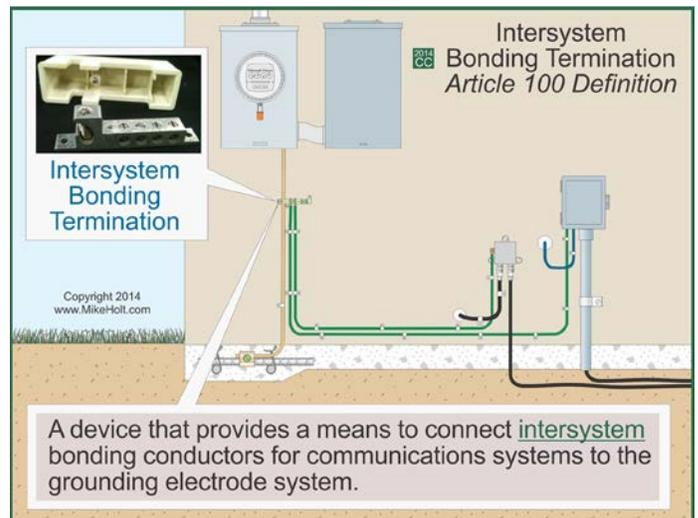

Figure 810-14
**Note:** According to the Article 100 definition, an Intersystem Bonding Termination is a device that provides a means to connect bonding conductors for communications systems to the grounding electrode system, in accordance with 250.94. Figure 810-14